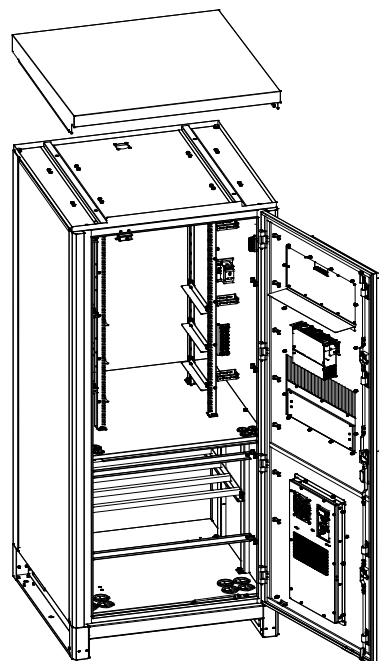

Figure 2-8 Disassembling top cover
4. Disassemble top cover according to Figure 2-8.